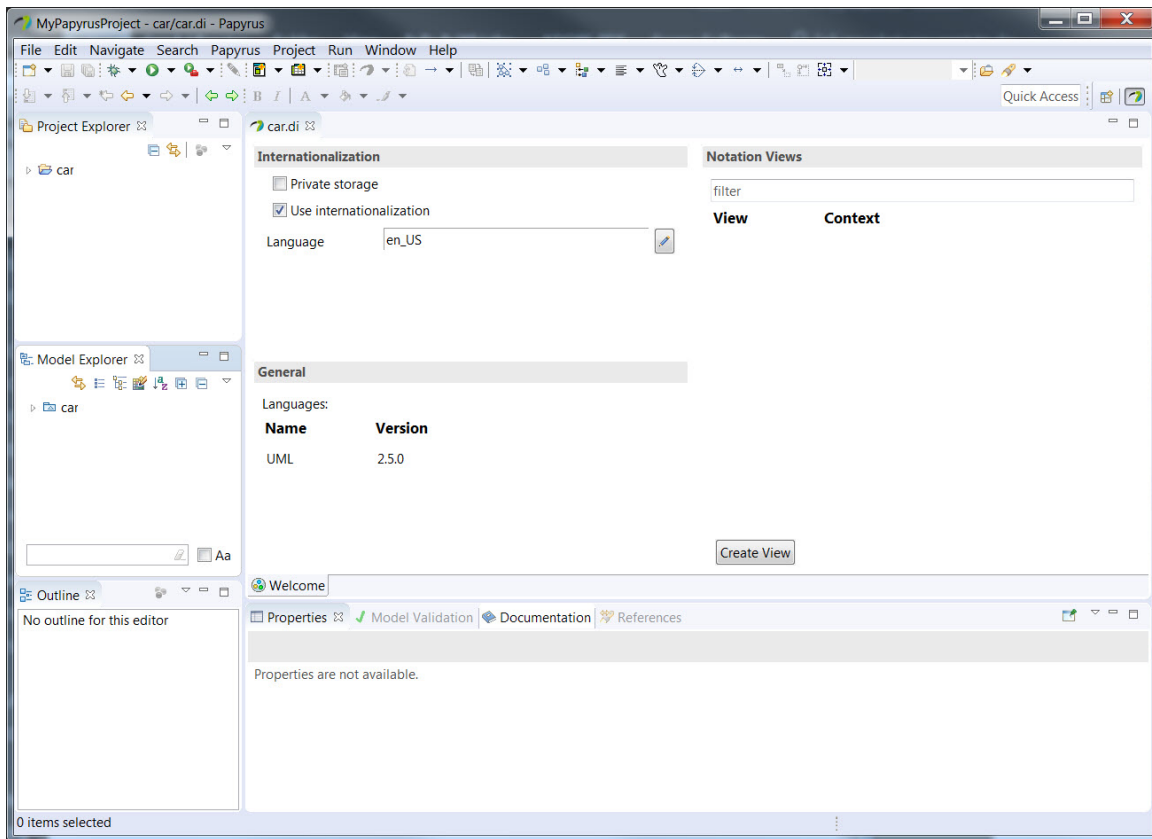

Figure 3: Project File Created
3. On the next screen type *car* for the project name and click **Finish**. Your screen should look like figure 3.